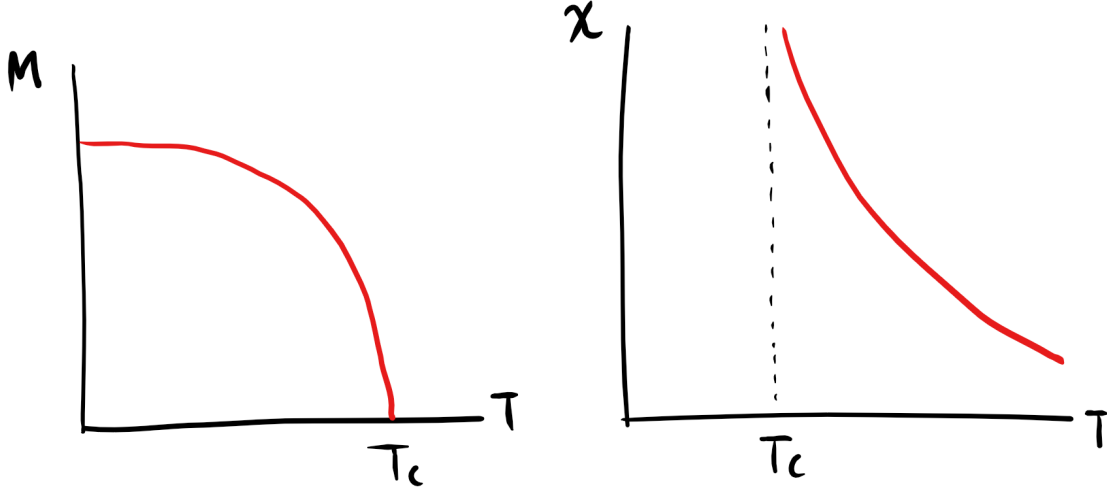
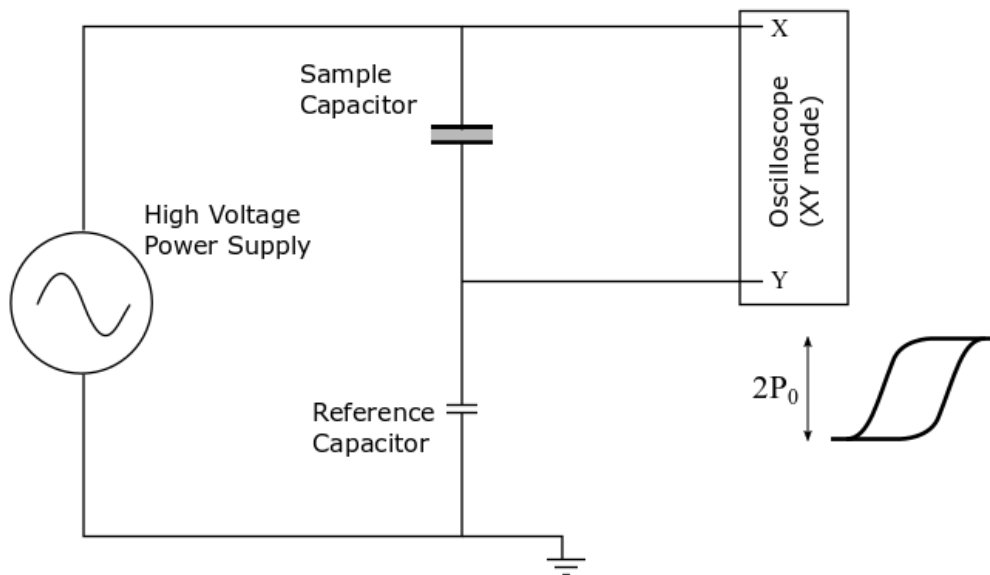

Figure 1 Magnetization  $M(T)$  and susceptibility  $\chi(T)$
Figure 8. Modified Sawyer-Tower circuit for measuring P vs E hysteresis loop.
Where  $T_c$  is the phase transition temperature, and  $M(0)$  is the value of order parameter at  $T=0$ . These results are shown schematically in Figure 1.
Hysteresis loops of P vs E can be generated on the oscilloscope by using a Sawyer-Tower circuit shown in Fig. 8. The voltage across the ferroelectric sample capacitor is applied to the horizontal plates of the oscilloscope (X). The reference capacitor is in series with the sample. The voltage across the reference capacitor is proportional to the polarization of the sample and applied to the Y input of the oscilloscope. You can start your measurement with a 2nF reference capacitor.
Since the spontaneous polarization is the order parameter of ferroelectric order, you may want to measure the polarization as a function of temperature in order to obtain the order parameter plot as shown in Fig. 1. The spontaneous polarization can be determined from the saturated polarization value from the hysteresis curve ( $P_0$  in Fig. 8). The order parameter should follow a power law temperature dependence (Equation 2).